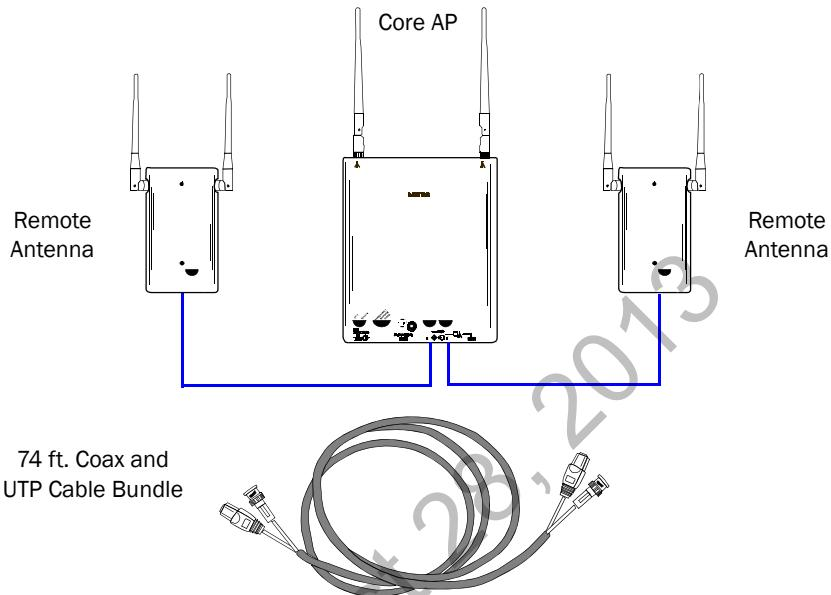

Figure 1-2: IntelliVue Smart-hopping Core Access Point
The IntelliVue Smart-hopping Core Access Point (AP), Model ITS4843B (Figure 1-2), provides an air-link to transmit and receive data between IntelliVue Smart-hopping IntelliVue Patient Monitors and the Philips IntelliVue Information Center via the IntelliVue Smart-hopping infrastructure.